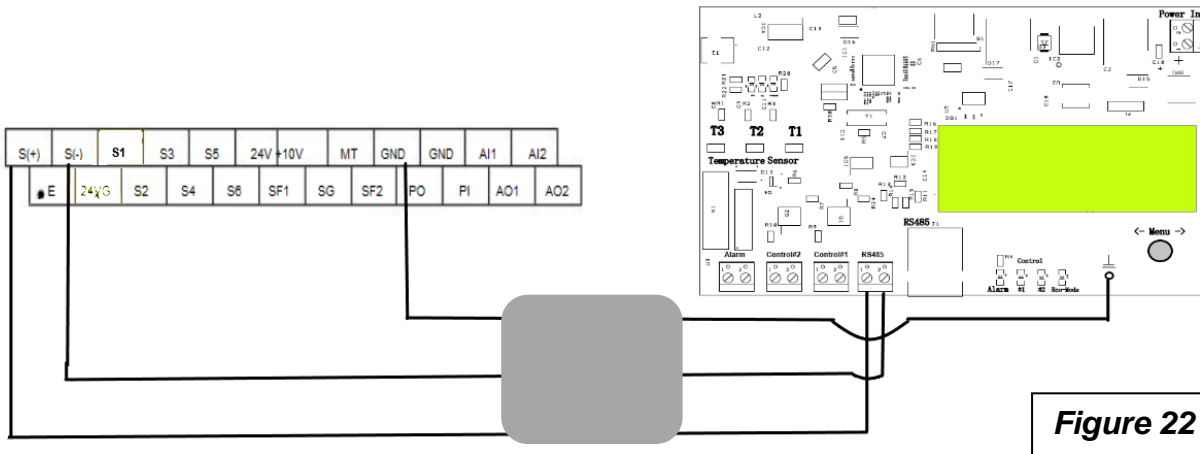

Figure 22
1. The Modbus connection between the Teco-Westinghouse F510 drive and the SCC should be as shown in figure 22 below.